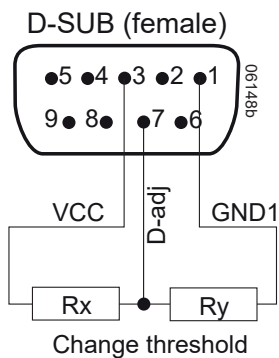

Fig. 20
Pin 7 of the D-SUB connector allows for adjustment of the threshold levels of D1 and D5. Both levels are influenced by the voltage divider  $R_x / R_y$ . Resistor  $R_x$  to pin 3 (VCC) lowers the levels, whereas  $R_y$  to pin 1 (GND1) increases them (see fig. 20).
Resistor Rext1, connected between R (pin 2) and GND1 (pin 1) of the D-SUB connector or according to fig. 20.
Resistor Rext2, connected between R (pin 2) and VCC (pin 3) of the D-SUB connector or according to fig. 20.
**Note:** If the R function is not included in M1 or M2, refer to figure 20 how to connect Rext1 or Rext2.
b) Adjustment by an external control voltage Vext (1.25 – 2.75 V), connected between R (pin 2) and GND (pin 1) of the D-SUB connector or according to fig. 20.